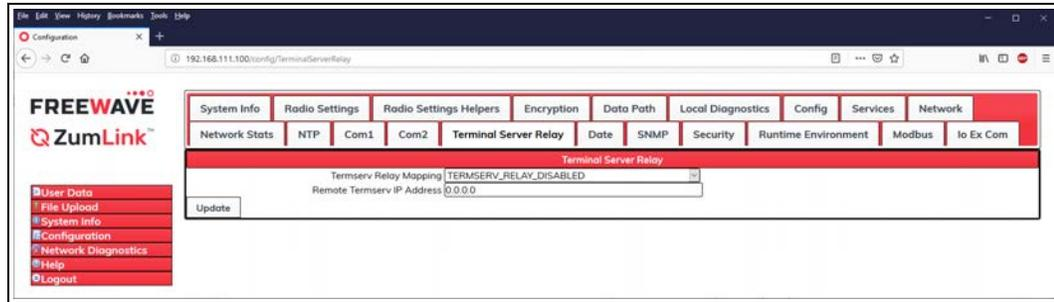

Figure 165: Terminal Server Relay window
6. Click the **Terminal Server Relay** tab to access the **Terminal Server Relay** parameters. Figure 165